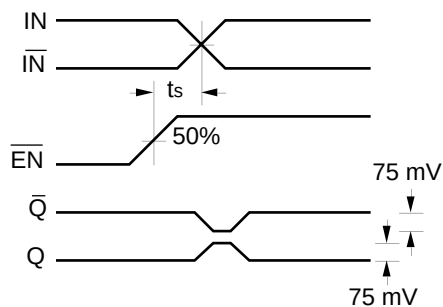

Figure 1. Set-up Time
5. The set-up time is the minimum time that $\overline{EN}$ must be asserted prior to the next transition of IN/ $\overline{IN}$ to prevent an output response greater than $\pm 75\text{mV}$ to that IN/ $\overline{IN}$ transition (see Figure 1).